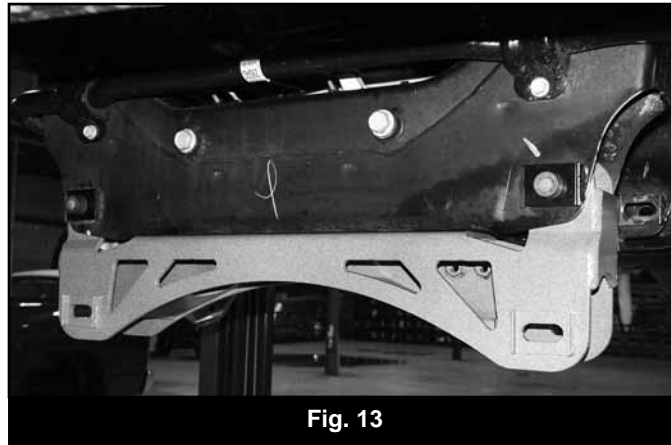

Fig. 13
44. Install the new front crossmember (01295) in the OE front lower control arm pockets (Fig 13) and loosely fasten with the provided 18mm x 150mm bolts, nuts in conjunction with the provided rectangle cam slot washers (01264). Note: The offset in the crossmember goes to the front, bolts run from front to rear.